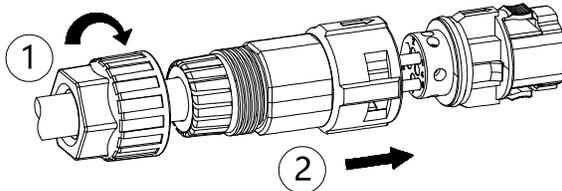

FIG 9 Assembly plug
- 6) According to FIG 9, adjust the length of the cable, tighten the tightening nut of the plug onto the sleeve, and then push the connected plug into the sleeve.